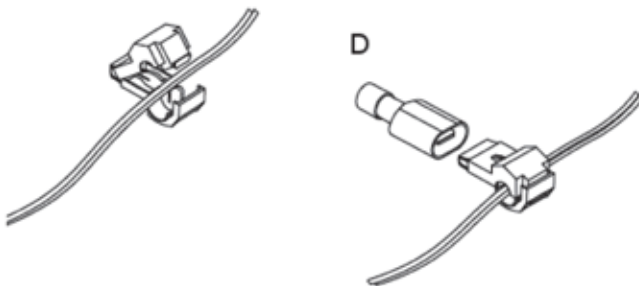

Figure 2: T-Tap Connection to Trigger Wire
- Using a multi-meter or test light find the active high beam switching wire located on the back of the head light. Connect “Tee Tap” connector onto this wire, refer to figure 2
- Fit the switch wire to the “Tee Tap”, strip 5mm of the insulation from the red wire (D) and crimp pink blade terminal to the end. Plug it into the “Tee Tap”